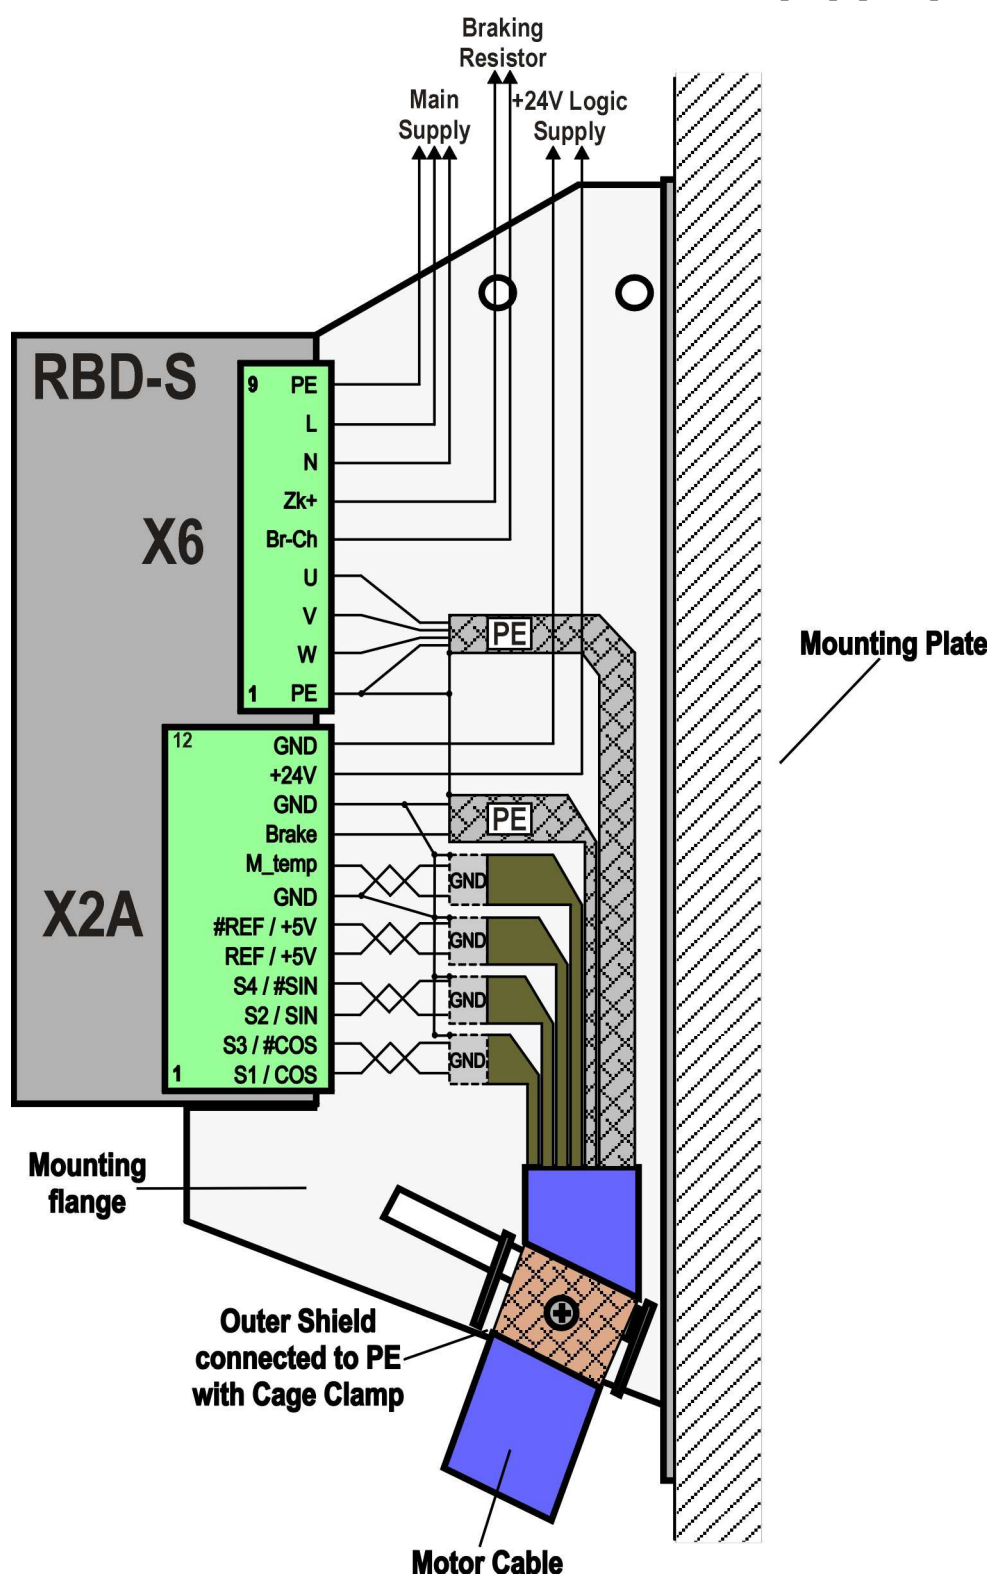
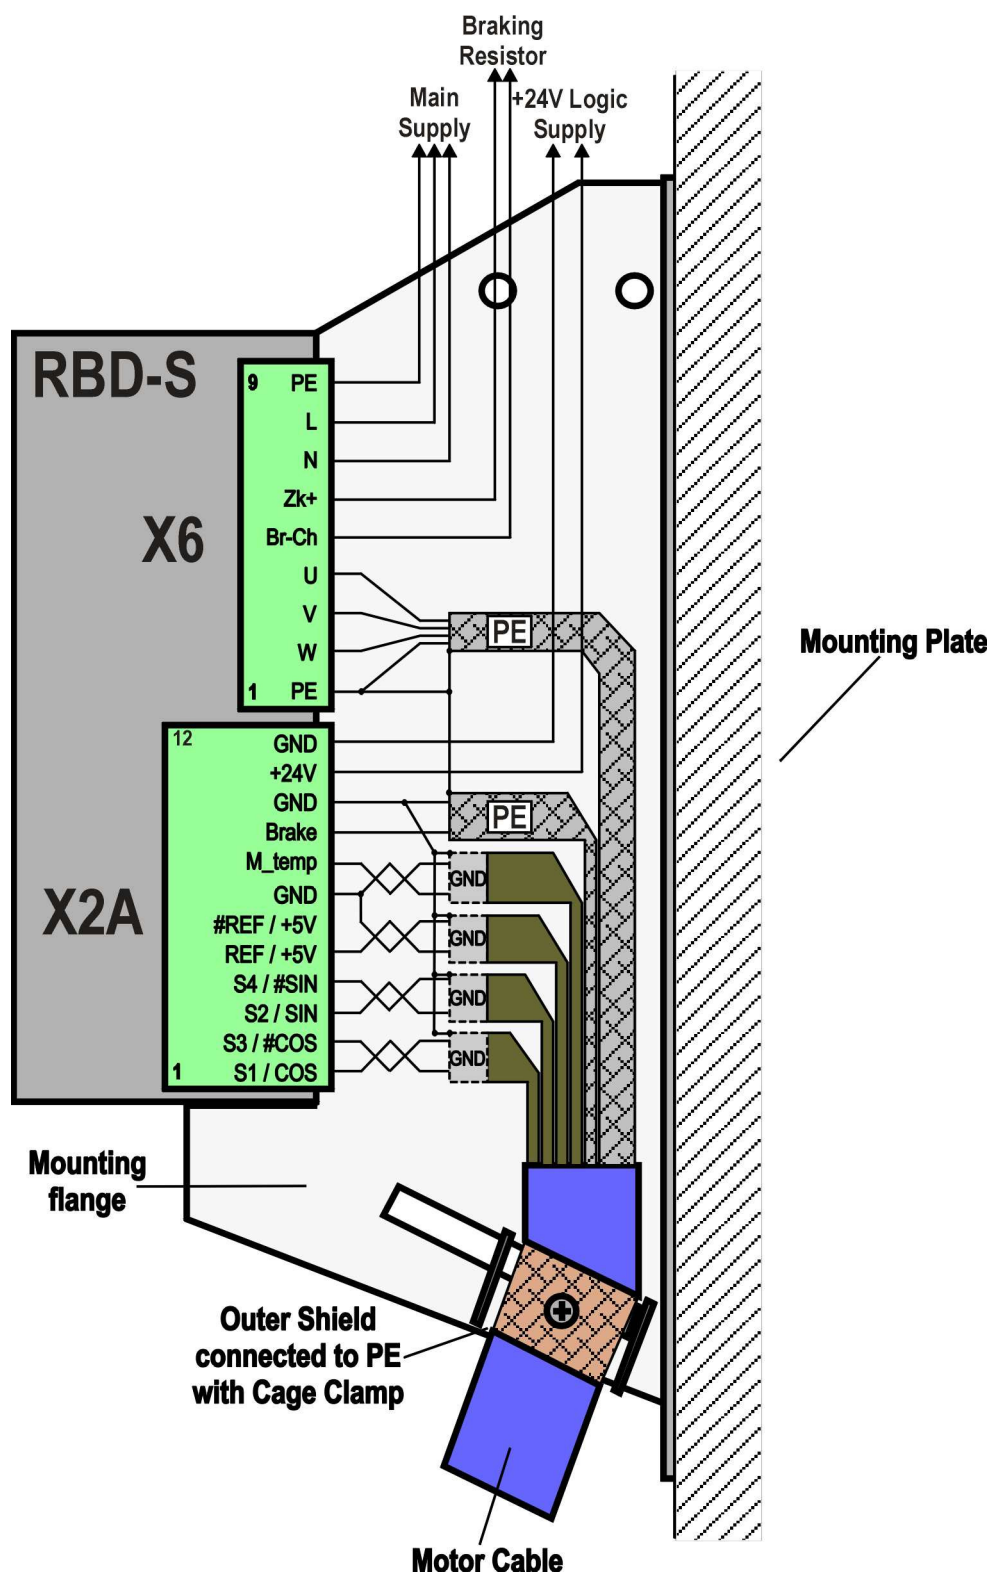

Figure 40: Connection motor with resolver and holding brake
Figure 42: Connection of analogue Hall sensing system and holding brake
- ❖ The outer screen of the cable on the RBD-S device must be connected with the aid of the cable clamp on the mounting plate angle, see Figure 40 and Figure 42
- ❖ The connection of each pair should be as shown in Figure 40 and Figure 42.